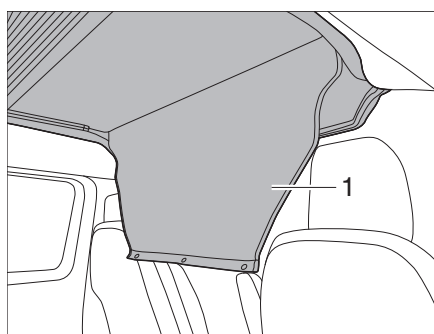

Fig. 41 Rolling up the access cover
- Open the entrance cover (Fig. 41,1) and roll it up.